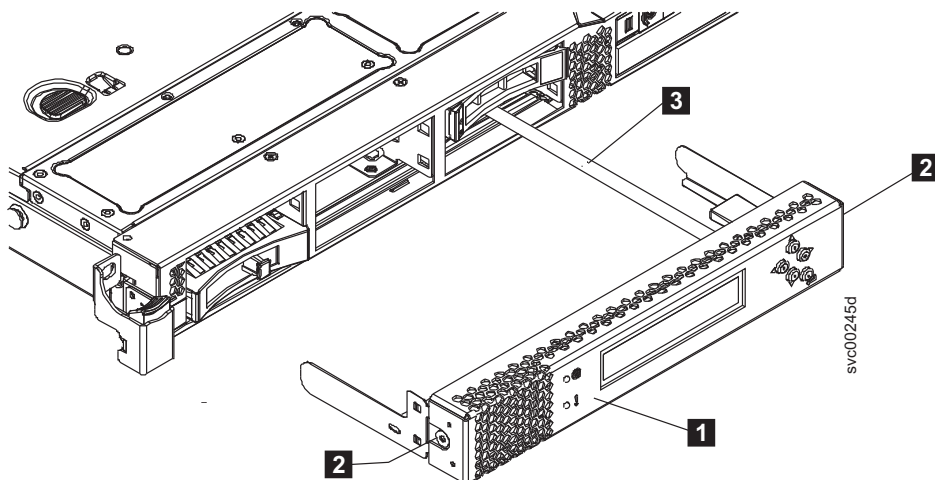

Figure 148. Service controller with attached USB cable (SAN Volume Controller 2145-CF8 shown)
5. If the service controller (**1** in Figure 148 on page 179) is in place, press the release buttons (**2**) on each side of the service controller assembly to release the service controller from the node, but do not disconnect the USB service controller cable. Slide the service controller from the node and support it somewhere, if possible, or gently suspend the service controller from the service controller cable.